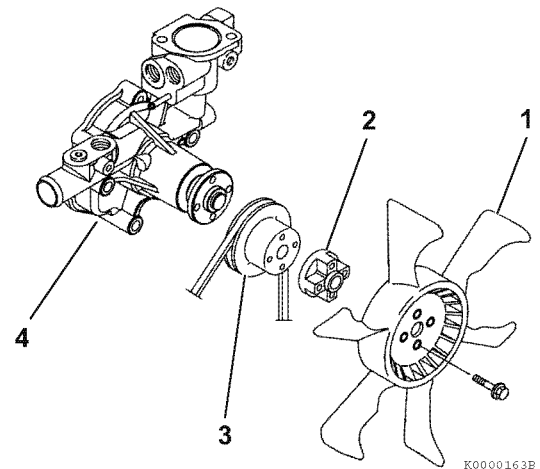

Figure 8-7
6. Remove the engine coolant fan guard (if equipped), engine coolant fan (1, **Figure 8-7**), spacer (2, **Figure 8-7**) and engine coolant pump V-pulley (3, **Figure 8-7**).
8. Remove the engine coolant pump (4, **Figure 8-7**). Discard the gasket.